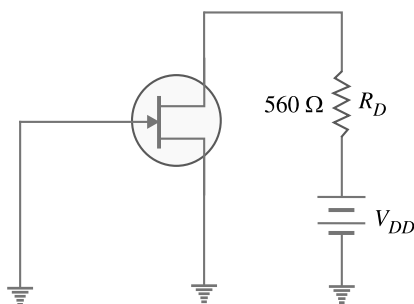

Fig. 17.19
**Example 17.5.** For an  $n$ -channel JFET in Fig. 17.19,  $V_{GS(off)} = -4V$  and  $I_{DSS} = 12 \text{ mA}$ . Determine the minimum value of  $V_{DD}$  required to put the device in the constant-current region of operation.